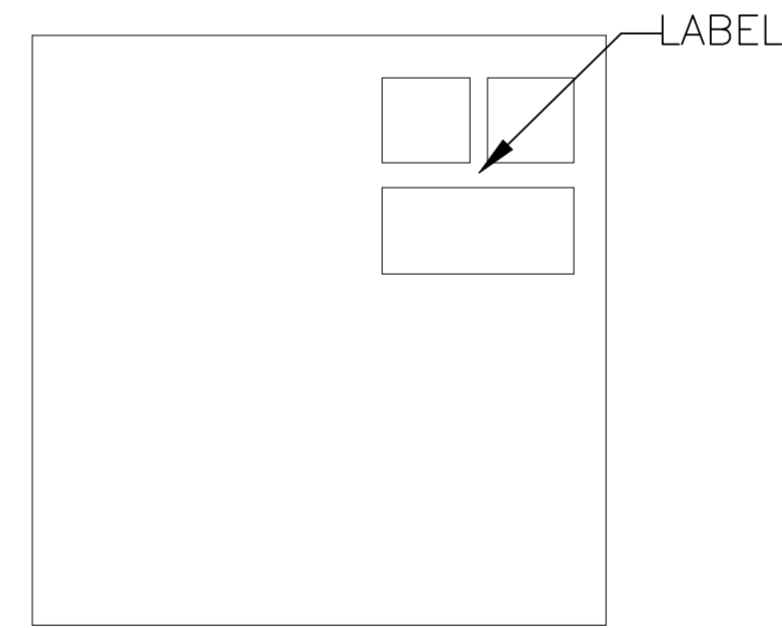

FIGURE 4
5. THE CARDBOARD BOX IS SEALED WITH A "WORKER" AND A LABEL IS ATTACHED AT THE LABEL STICKING POINT; (AS SHOWN IN FIGURE 4)